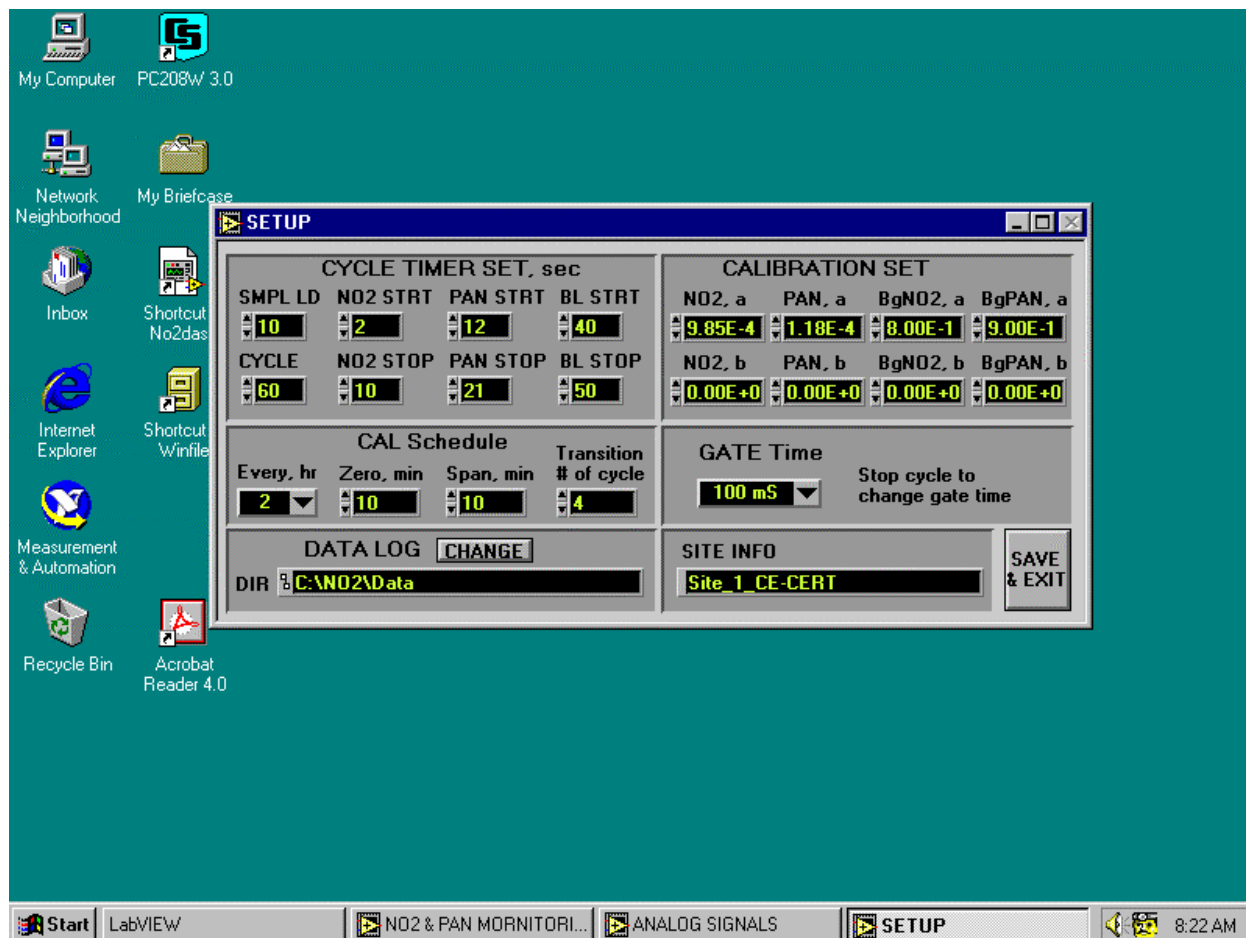

Figure 2 Setup Window
3. Record all software settings on page 2 of the Weekly checklist form. The software settings are shown in the Setup window. Figure 2 shows an example of the Setup window. To display the Setup window, click the button labeled SETUP in the Main window.